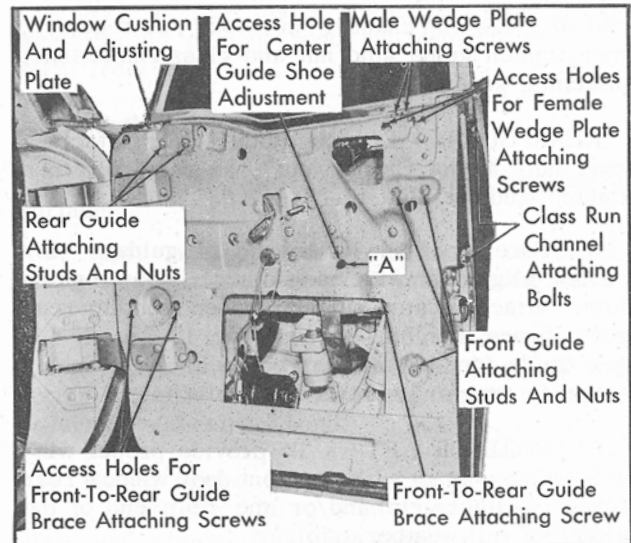

Fig. 17-38 Rear Door Window Adjustments
Raise door window. Loosen male wedge plate screws. Through large access hole loosen center guide shoe jamb nut. With a screw driver inserted through access hole "A", Fig. 17-38, adjust center guide shoe in or out as required; then tighten center guide shoe jamb nut. With window in full up position, tighten male wedge plate screws.
Raise rear door window. Loosen rear guide upper attaching studs and nuts. Adjust studs in or out, as required, then tighten stud nuts, Fig. 17-38.
FRONT GUIDE - Loosen guide lower attaching stud nut and glass run channel lower attaching screw, Fig. 17-38. Adjust guide stud and lower
REAR GUIDE - Loosen guide lower attaching stud nut, adjust "in or out", as required; then tighten stud nut, Fig. 17-38.
b. "Fore or Aft" lower end of guides - for proper alignment with each other. Loosen guide lower attaching stud nut and loosen front-to-rear guide brace attaching screws, Fig. 17-38, and adjust guide fore or aft, as required. Then tighten all guide attaching screws and stud nuts.
Raise rear door window. Loosen male wedge plate screws, Fig. 17-38. Loosen front and rear guide upper attaching stud nuts. Move window and upper ends of guides "fore or aft" as required; then tighten guide stud nuts. With window in full up position tighten male wedge plate screws.
a. Front of Window - Loosen female wedge plate screws, operate window to proper position then tighten female wedge plate screws, Fig. 17-38.
(51) Rear Door Window Glass Run Channel Assembly
2. Remove glass run channel attaching bolts, Fig. 17-38.
(52) Rear Door Window Front or Rear Guide Removal and Installation
3. Remove screw securing guide to front-to-rear guide brace, Fig. 17-38.